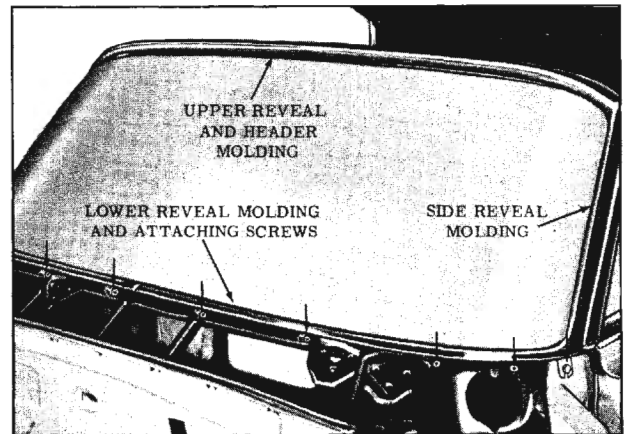

Fig. 16-3 Windshield Reveal Moldings
NOTE: The outer most attaching screw on each side of the lower molding is hidden by the front fender and may be removed by opening the front door. The outer molding clip is slotted allowing removal of the molding without completely removing the attaching screw. (Fig. 16-3)
5. Remove lower reveal molding attaching screws except end screws, open door, loosen both end attaching screws, lift up molding disengaging slotted clip from screws and remove molding. (Fig. 16-3)